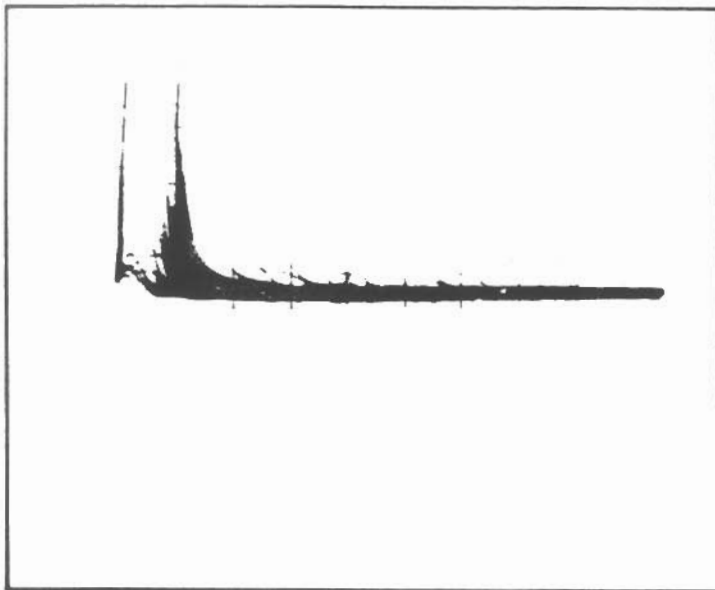
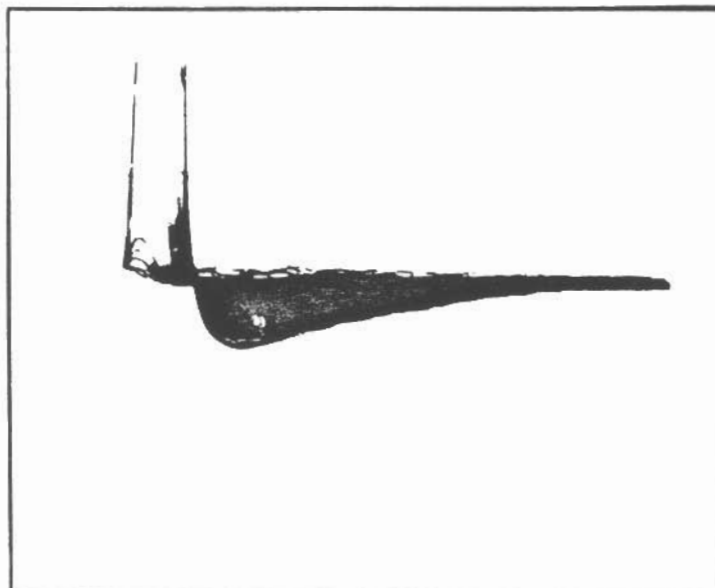

Figure 4-2a
Figure 4-2b
- a. The Pole/Zero is extremely critical for good high count rate resolution. See note 1 on page 4-4. Adjust the radiation source count rate between 2kcps and 25kcps. While observing the AMP OUTPUT on the scope, adjust the Pole/Zero so that the trailing edge of the Gaussian pulse returns to the baseline with no over or under shoots. Figure 4-2a shows the correct setting of the Pole/Zero control, with Figures 4-2b and 4-2c showing under and over compensation for the preamplifier decay time constant. Notice some small amplitude signals with long decay times in Figure 4-2a. These are due to charge trapping in the detector and cannot be corrected by the Pole/Zero control.